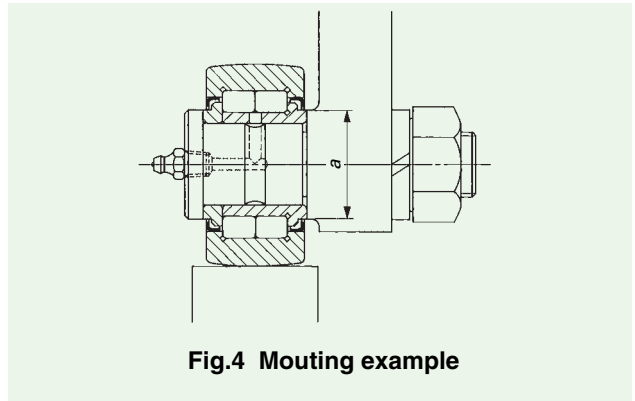

Fig.4 Mounting example
- 1 Fix the roller follower in an axial direction after fitting the side surface of the mounting part correctly to the flat shoulder "a" indicated in the dimension table (Refer to Fig.4.).